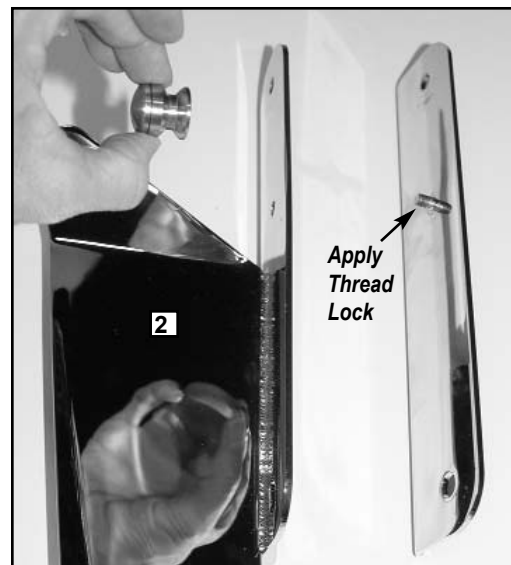

Figure 4
4. Apply Thread Lock to stud on Mount Bracket. Assemble the Chrome Lower To the Mount Bracket with Small Spool assembly. **Figure 4**